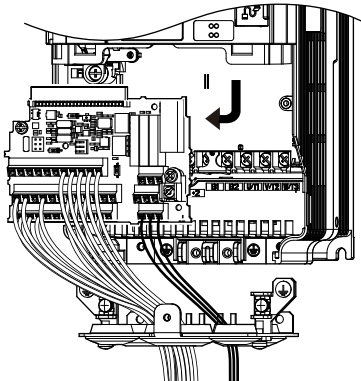

Figure 2.42 Remove the Terminal Board
3. Slide the terminal board as illustrated by the arrows in Figure 2.42 to remove it from the drive along with the bottom cover.